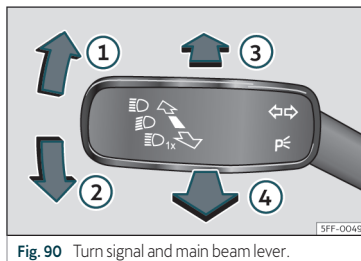

Fig. 90 Turn signal and main beam lever.
- From the base position, press the turn signal and main beam headlights lever forwards >>> **Fig. 90**  When the lamp  is displayed on the instrument panel display, the main beam assist is switched on.
- **OR:** while the main beam is on, pull the turn signal light and main beam headlights lever forwards >>> **Fig. 90** .